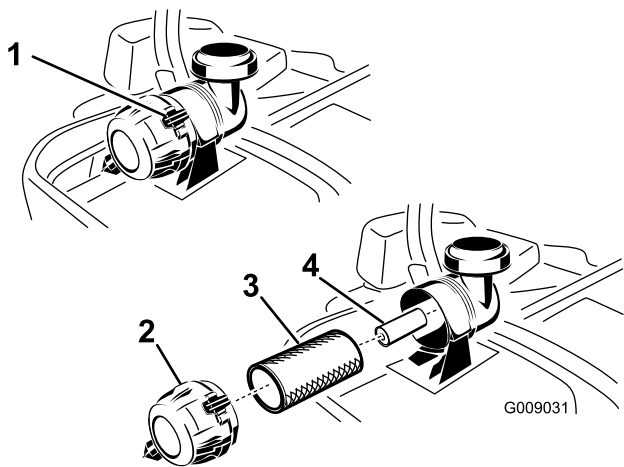

Figure 45
3. Push down to release the retaining clamps on the air cleaner and pull the air cleaner cover off of the air cleaner body (Figure 45).
5. Gently slide the primary filter out of the air cleaner body (Figure 45). Avoid knocking the filter into the side of the body.
1. Do not clean the paper filter, replace it (Figure 45).
2. If the secondary filter is being replaced, carefully slide it into the filter body (Figure 45).
3. Carefully slide the primary filter over the secondary filter (Figure 45). Ensure that it is fully seated by pushing on the outer rim of the filter while installing it.
4. Install the air cleaner cover with the breather cap down and rotate so the retaining clamps lock the cover in place (Figure 45).